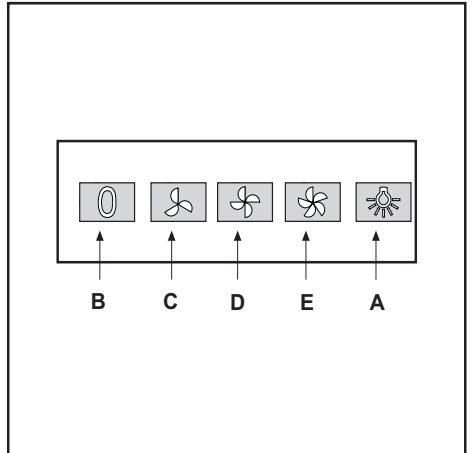

Fig.5
• **Commands:** (fig.5) **mechanical** the key symbols are explained below: